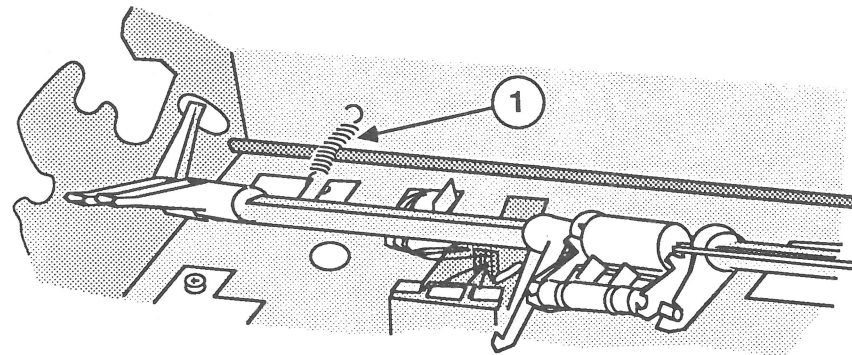

FIGURE 23
3. Remove the left and right springs between the paper pan and the paper-guide plate (Figure 23, #1).